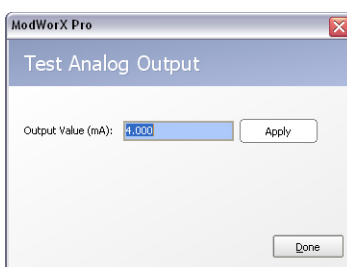

Figure 7.29
9. To test the analog output following adjustments, click the **Test Output** button at the bottom of the Configure Analog Outputs screen. A Test Analog Output dialog will appear (Figure 7.29).